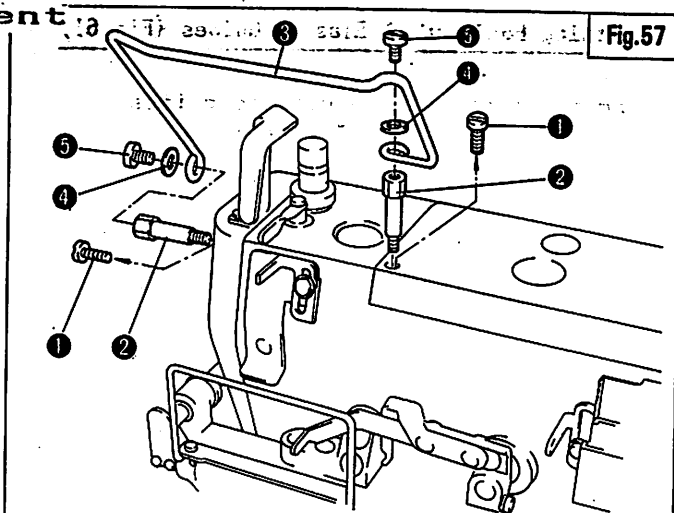

Fig.57
[2] Setting Lace Guide (Fig.57)
Refer to Fig. 57. Remove screw ① and fit lace Guide ③ (②~⑤ in sequence).